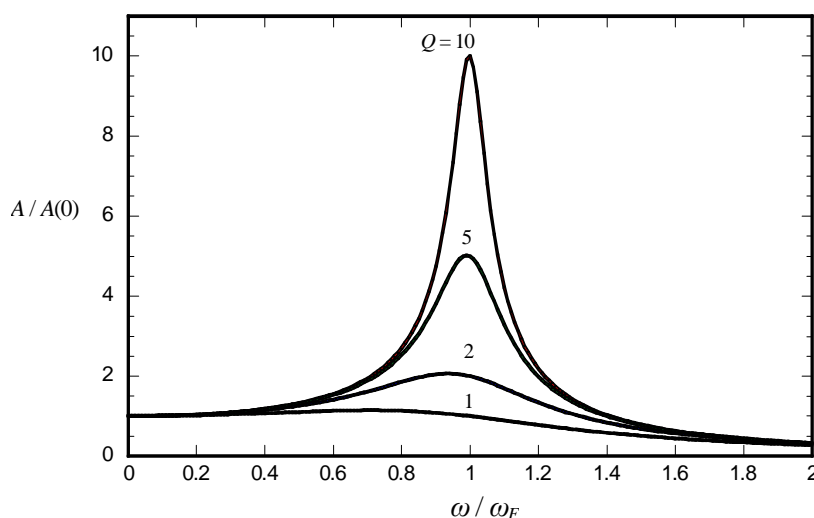

Figure 2. Amplitude as a function of frequency for various values of Q
$A(\omega)$ is shown for various values of Q in Figure 2 below.
Now we want to be able to produce a graph like that in Figure 2. You will want to find the amplitude for some frequencies around the resonant frequency.
2. Enter your data into Excel and **produce a graph** like that shown in Figure 2 for your data. Use $A(0) \approx A(0.1 \text{ Hz})$ and your experimentally determined value of f_R .